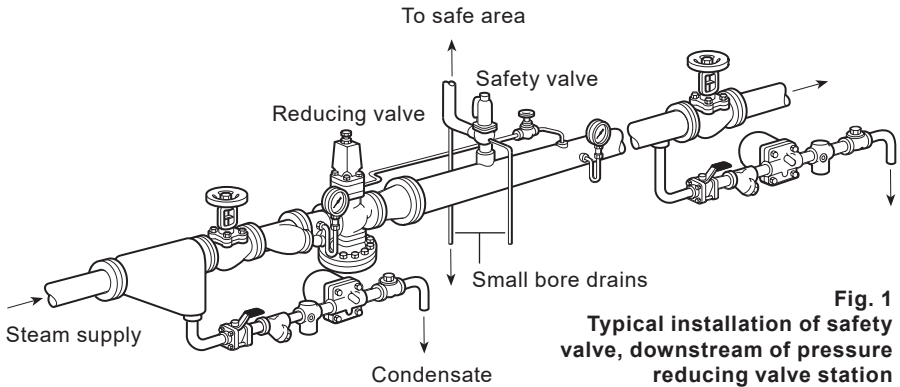

Fig. 1
- 5.1 Ensure that the installation is correct (See example on Figure 1, page 5).